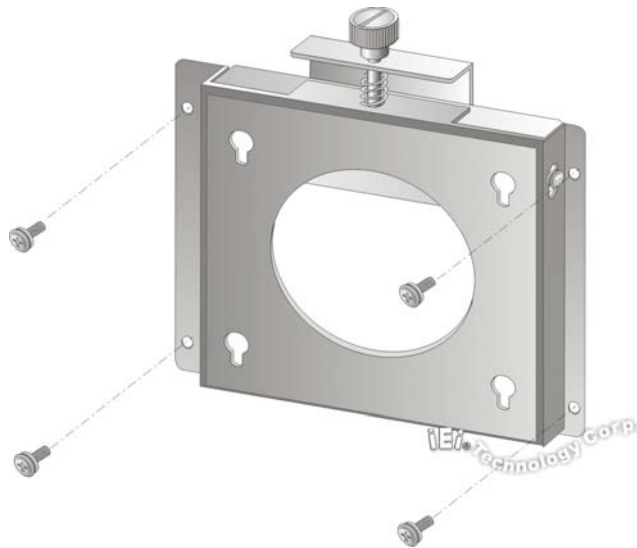

Figure 3-14: Wall-mounting Bracket
- Step 5:** Secure the mounting-bracket to the wall by inserting the retention screws into the four pilot holes and tightening them (Figure 3-14).